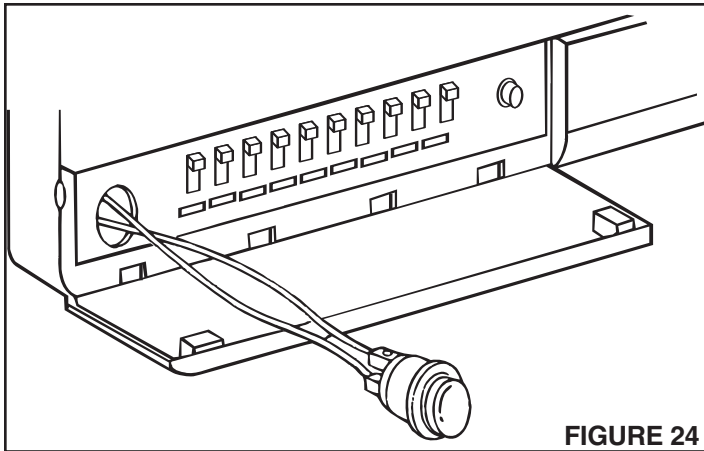

FIGURE 24
1. Refer to Figure 24. Feed one wire from the door release transformer and one wire from the door release mechanism through the pushbutton hole in the master station panel.